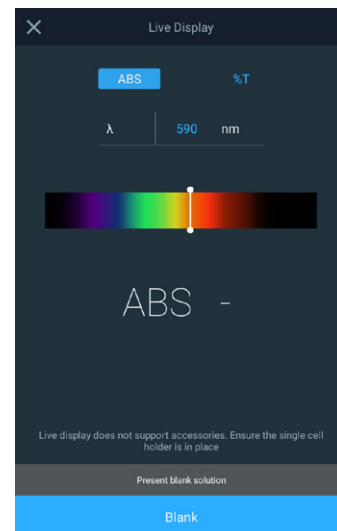

Figure 3. Live display application for the Genesys instruments.
9. Setup the “Live” application on the UV-Visible instrument with the following parameters (See Figure 3):